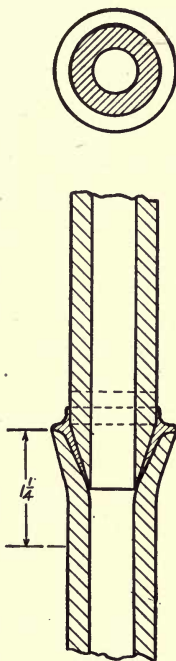

FIG. 16.—Cup joint.
*Tenth*, place the two pieces into position as shown in Fig. 16, sprinkle rosin on the joint, melt a few drops of solder on the joint and with the iron melt the solder on the joint, drawing the iron around the pipe keeping the solder melted around the iron all the time.